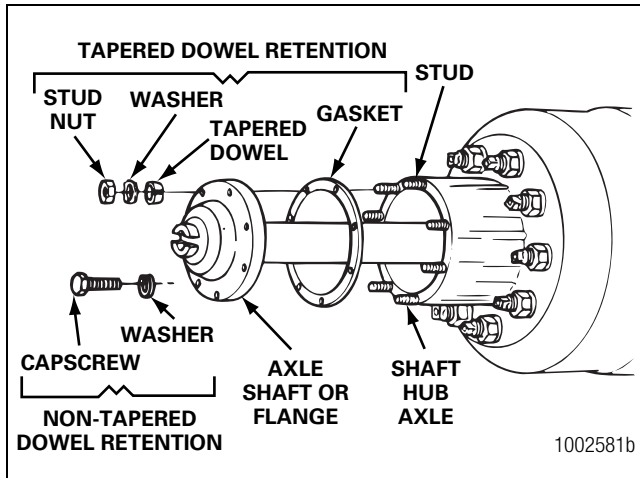

Figure 11.1
6. Remove the stud nuts or capscrews and washers from the flange of the axle shaft. Figure 11.1.
7. Loosen the tapered dowels, if used, in the flange of the axle shaft. Figure 11.1.
9. Remove the tapered dowels, gasket, if used, and the axle shaft from the axle assembly. Figure 11.1.
5. Install the gasket, if used, and axle shaft into the axle housing and carrier in the same location. The gasket and flange of the axle shaft must be flat against the hub. Rotate the axle shaft or the driveline as necessary to align the splines and the holes in the flange with the studs in the hub. Figure 11.1.